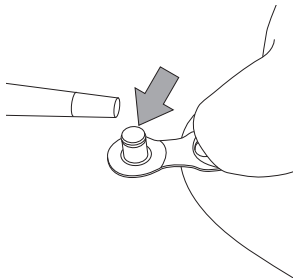

Fig.6
- Lubricate the pins of the C-Link™ using a specific chain lubricant (Fig.6).